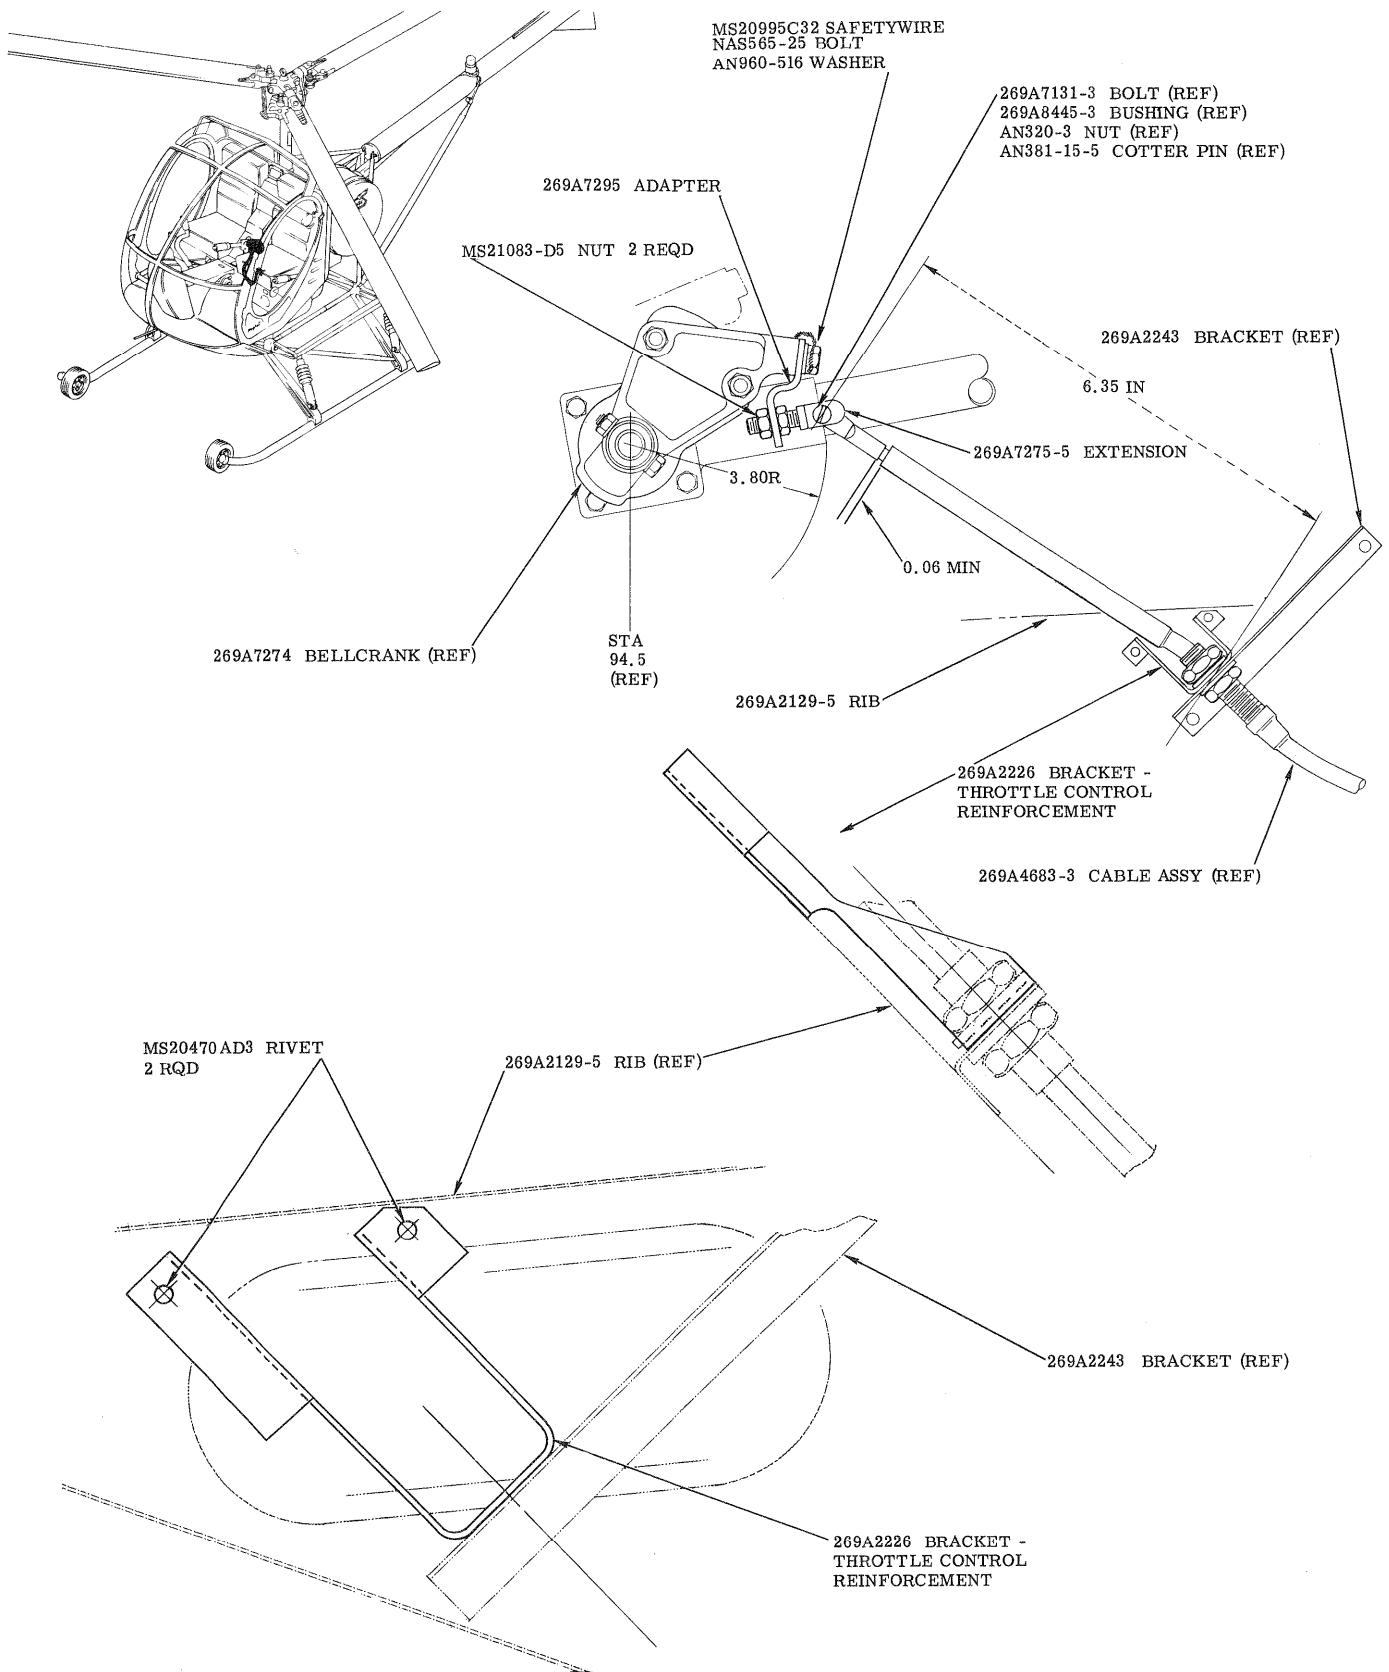

FIGURE 1. DESENSITIZED THROTTLE-MODIFICATION KIT NO. M10061.
d. Install new adapter on bellcrank with washer, bolt and lockwire. (See Figure 1)